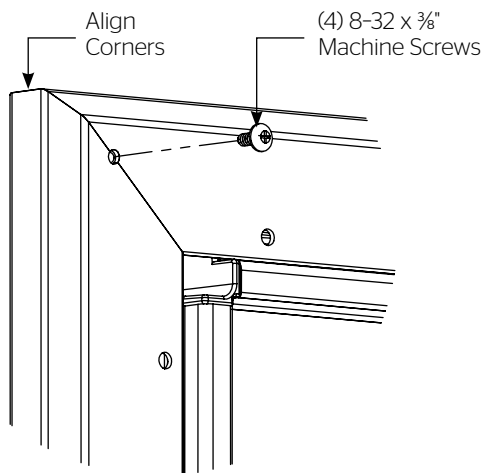

Figure 4
2. Align corners and insert one 8-32 x 3/8" screw in each corner to attach the outer bezel onto the inner frame assembly (Figure 4).